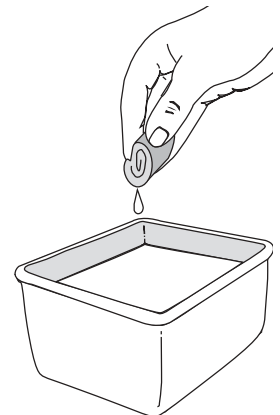

Fig. 19
3. Wash the filter in detergent and water (Fig. 19). Rinse the filter thoroughly. Squeeze out excess water. Allow it to dry completely.